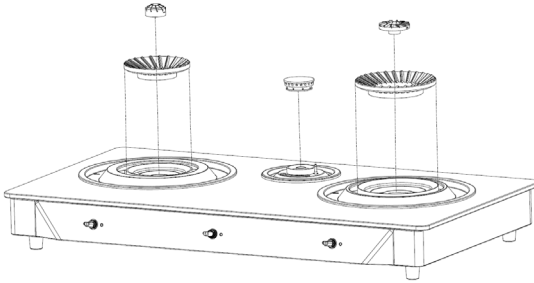

Figure 2
2. Check and adjust the burner cap and burner until they match (see Figure 2).